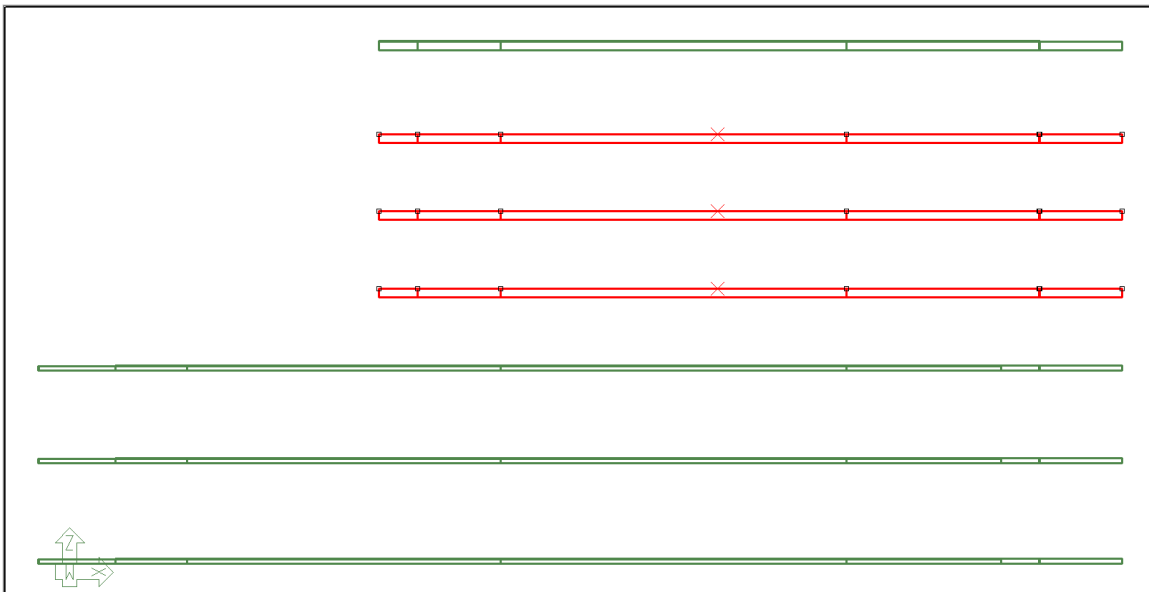

FIGURE 8-17
- Drag and select the Level 4 through Level 6 slabs. Once the slabs are selected, they should be highlighted in a red color as shown in **FIGURE 8-17**.